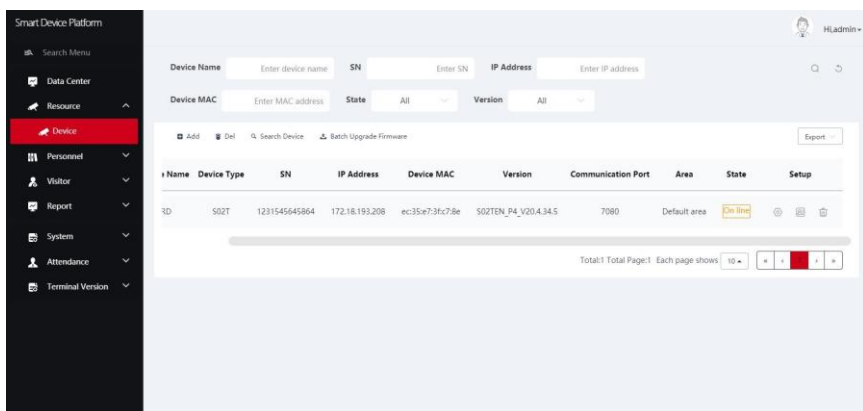

Figure 5-16
Step 1: In the smart device platform interface, click "Resource→Device" to enter the device management interface, as shown in Figure 5-16 below.